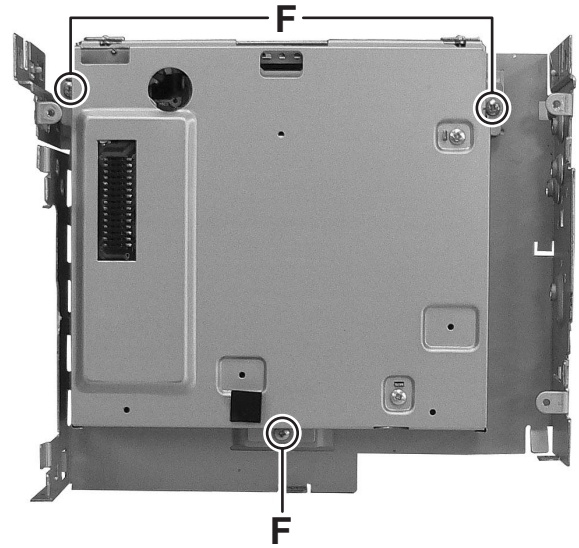

Fig.6
### 3.1.5 Removing the DVD mechanism assembly (See Fig.6 and 7)
- (1) Remove the three screws **F** attaching the DVD mechanism assembly. (See Fig.6)